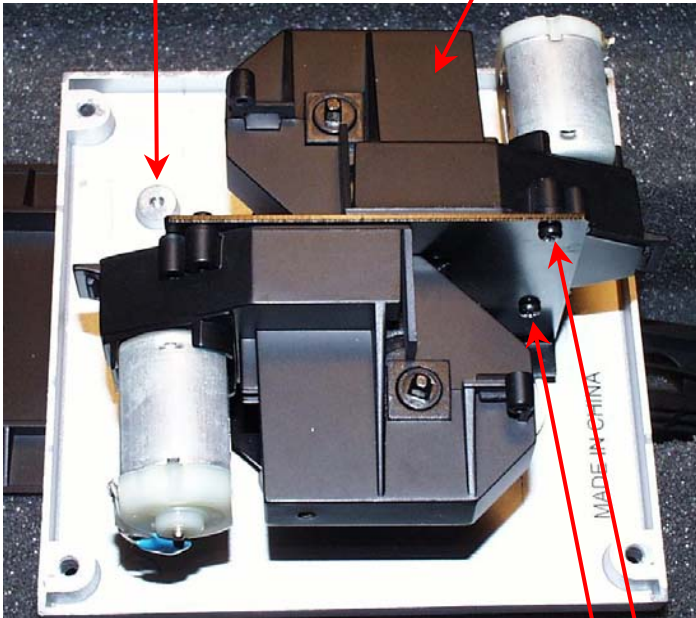

FIGURE 1
Step 2: Remove the old wiring (Figure 1)
Step 3: Remove the hook motor assembly (Figure 1)
The removal of one motor is recommended to solder the connections to the bucket / magnet terminals. There are 2 screws that attach each motor to the metal frame. In figure 1, notice the old cable clamp mounting point, this is the side where the motor must be removed.